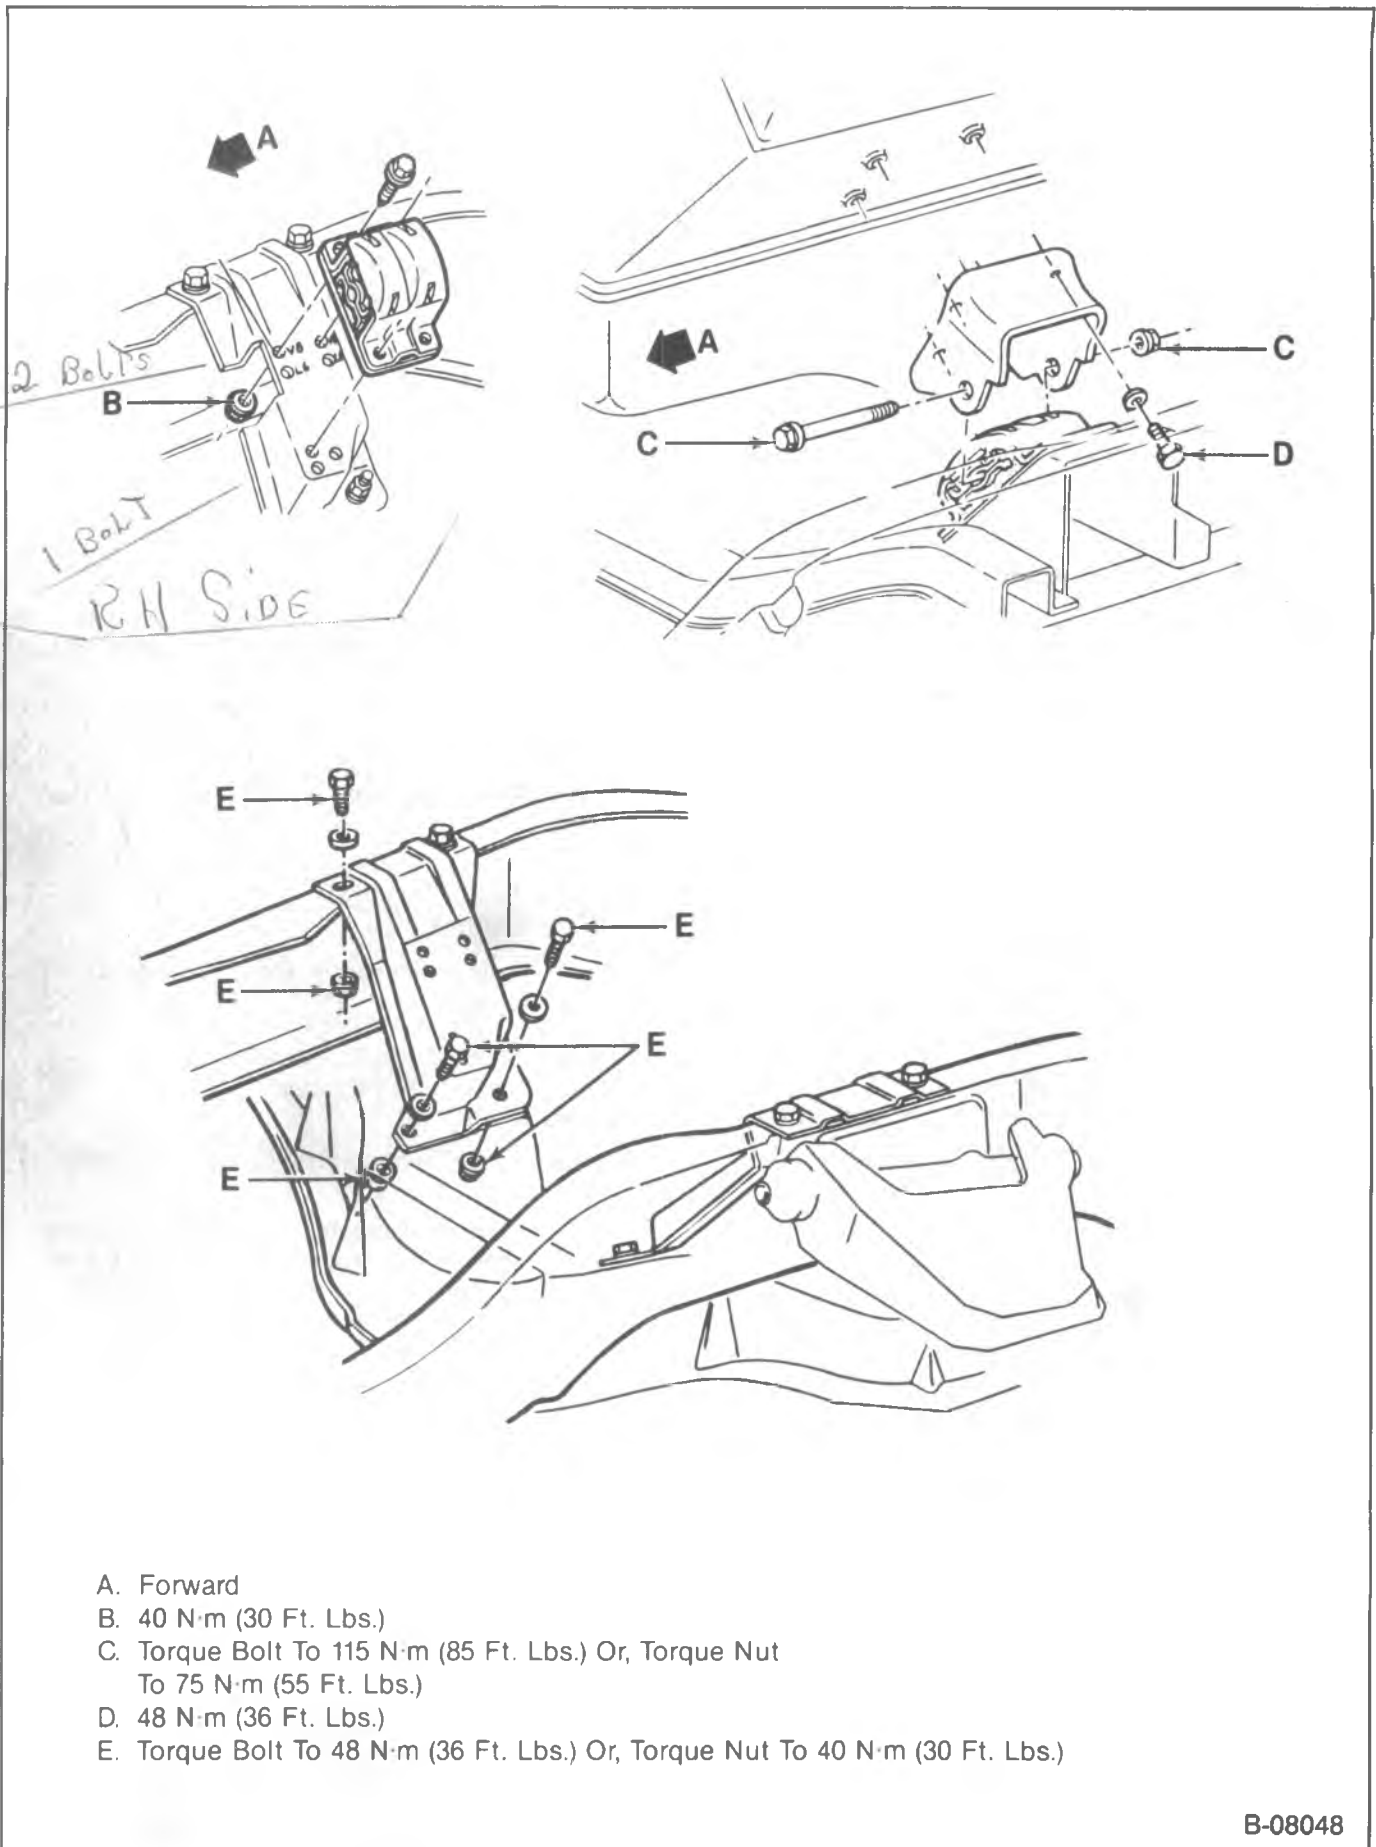

Figure 34—Front Engine Mountings (R Models)
Remove or Disconnect (Figures 34 through 37)
Install or Connect (Figures 34 through 37)
- Fasteners to specifications. Refer to figures 34 through 37.
→→ Install or Connect (Figures 34 and 35)